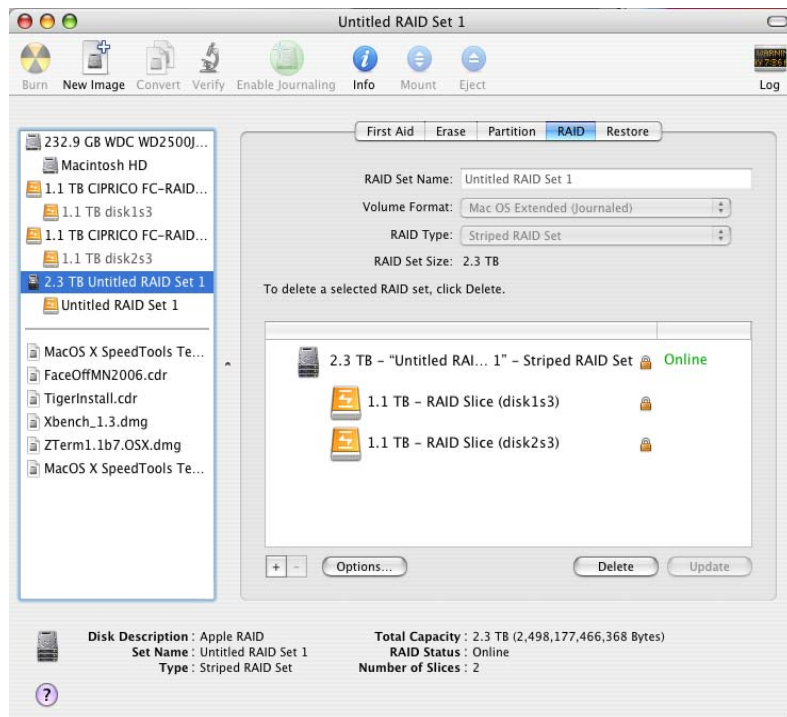

FIGURE 6-13. The Apple Disk Utility Screen, Showing the Striped RAID Set.
13. When the creation process is finished, the *Apple Disk Utility* screen displays icons similar to the ones shown in this example. See Figure 6-13.